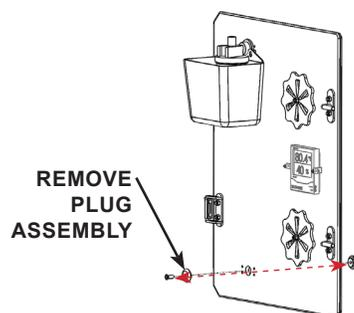

FIGURE 3.4 - O₂ Analyzer Plug Removal
STEP 1: Install the O₂ Analyzer by removing the plug assembly with a Phillips head screwdriver. Clean and store the plug for replacement into the door when the analyzer is not used. See FIGURE 3.4